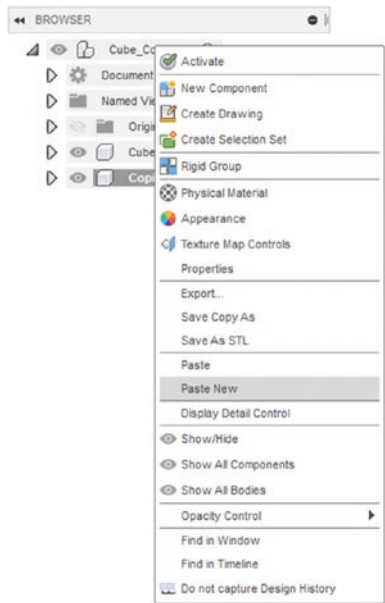

Figure 8-5. Select “Paste New”
5. Then right-click the Cube_Copy assembly and select “Paste New.” This will create a new body that is separate from the original cube. This is important if you want to modify just one of the components. This was used with the wheelbases of the rover. See Figure 8-5.